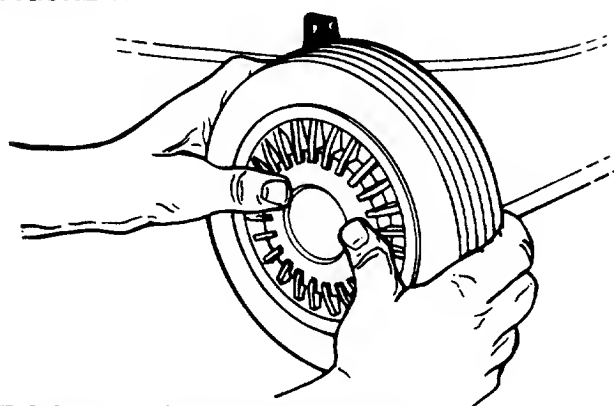

FIGURE 8.—Optional Hub Caps
2. If your mower is equipped with 2" wide tires, place hub caps in position against the inner hub of the wheel. Press firmly around the center portion of hub cap in a circular motion, similar to installing a lid on a round, plastic container. See figure 8.